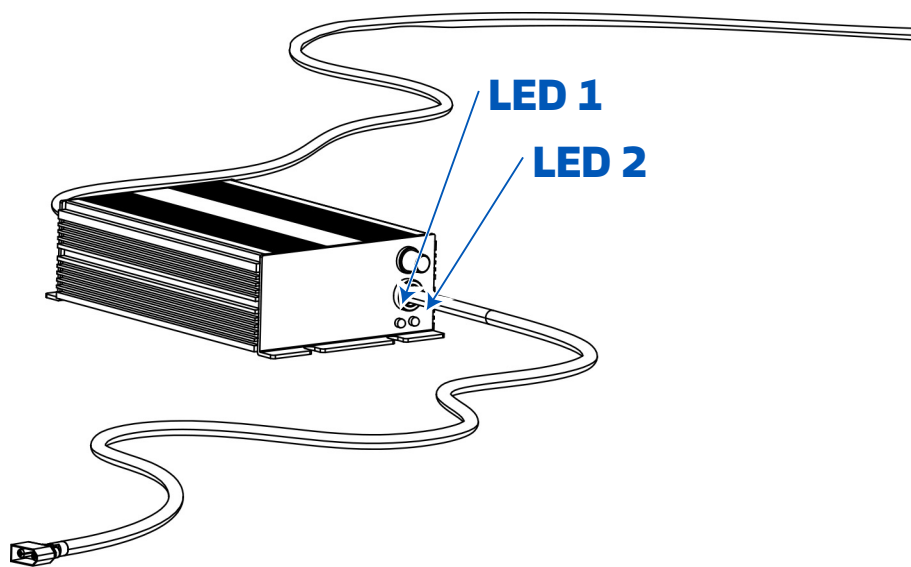

Fig. 9
- 1- You must plug the charger cable into the domestic plug (Fig. 8a). At this point, LED 1 on the charger will be red and LED 2 will be green (Fig. 9).